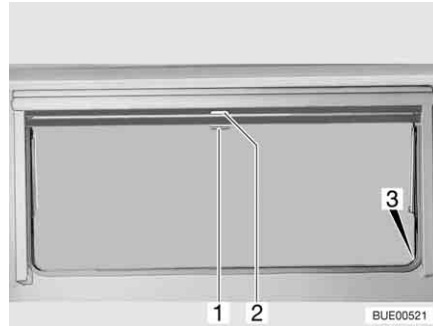

Fig. 83 Hinged window
- Pull blind at the handle (Fig. 83,2) downwards. If the blind is to be completely closed, it is suspended into the locking devices (Fig. 83,3) situated on both sides of the window frame.
- If the blind is completely closed: Press handle (Fig. 83,2) downwards and, at the same time, tilt it slightly inward. The blind can be taken out of the locking devices situated on both sides of the window frame.
- If the blind is in an intermediate position: Pull the handle (Fig. 83,2) slightly downwards until the locking device releases.
- Pull insect screen at the handle (Fig. 83,1) down and hang it into the locking devices (Fig. 83,3) situated on both sides of the window frame.
- Press handle (Fig. 83,1) downwards and, at the same time, tilt it slightly inward. The insect screen can be taken out of the locking devices situated on both sides of the window frame.